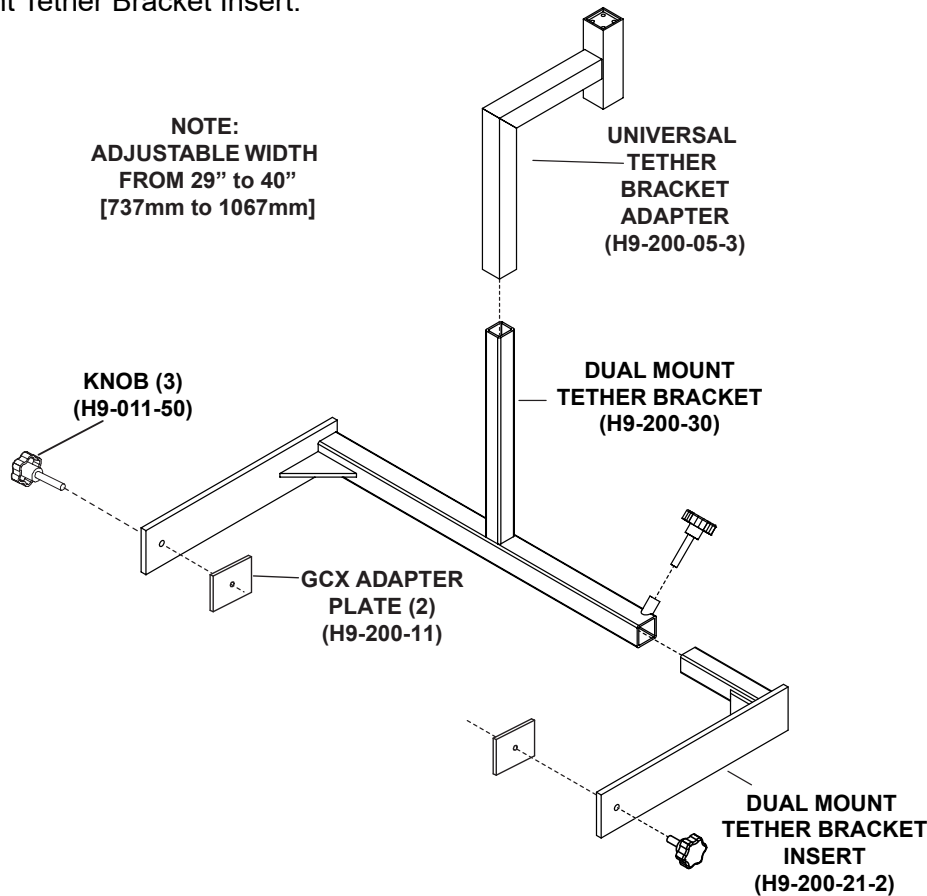

Figure 4. Tether bracket assembly
1. Slide the Dual Mount Tether Bracket into the Universal Tether Bracket Adapter (Figure 4).
2. Slide the Dual Mount Tether Bracket Insert into base of the Dual Mount Tether Bracket (Figure 4). Adjust it to the desired position.
3. Screw a H9-011-50 knob into the tube in the tether bracket (Figure 4) and tighten it to secure the Dual Mount Tether Bracket Insert.
6. Screw a H9-011-50 knob into the bracket arm and GCX Adapter Plate (Figure 4).